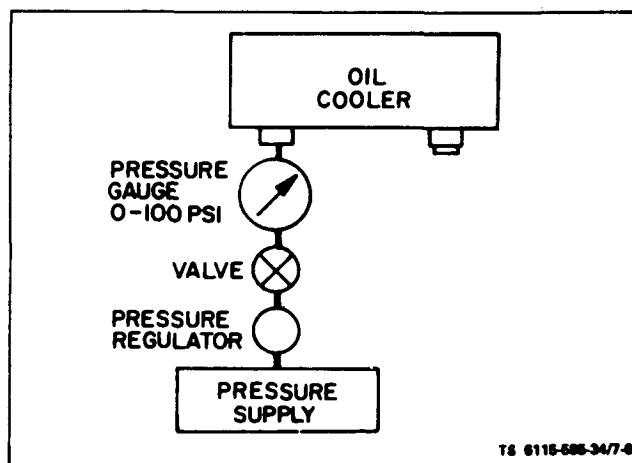

Figure 7-6. Testing Oil Cooler
c. Test (see figure 7-6).
- (1) Plug the oil cooler outlet using suitable plug.
- (2) Connect the oil cooler in suggested test set-up (see figure 7-6).
- (3) Apply 25 psi air pressure to the oil cooler.
- (4) Close the valve and monitor the pressure. A drop in air pressure indicates a leak in the oil cooler.